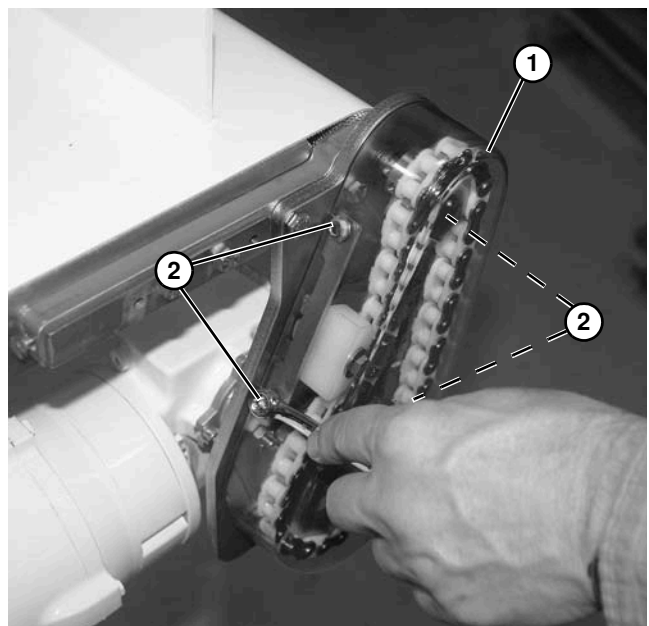

Figure 67
*Do not over-tighten screws (**Figure 67, item 2**).*
12. Install cover (**Figure 67, item 1**) and tighten four screws (**Figure 67, item 2**).